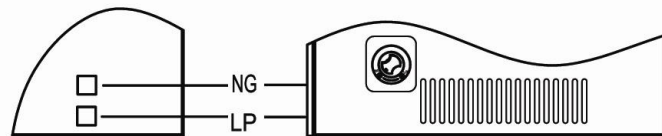

Figure 12
1. Remove bottom screw from cover plate, see figure 12, and rotate to expose gas selection valve.